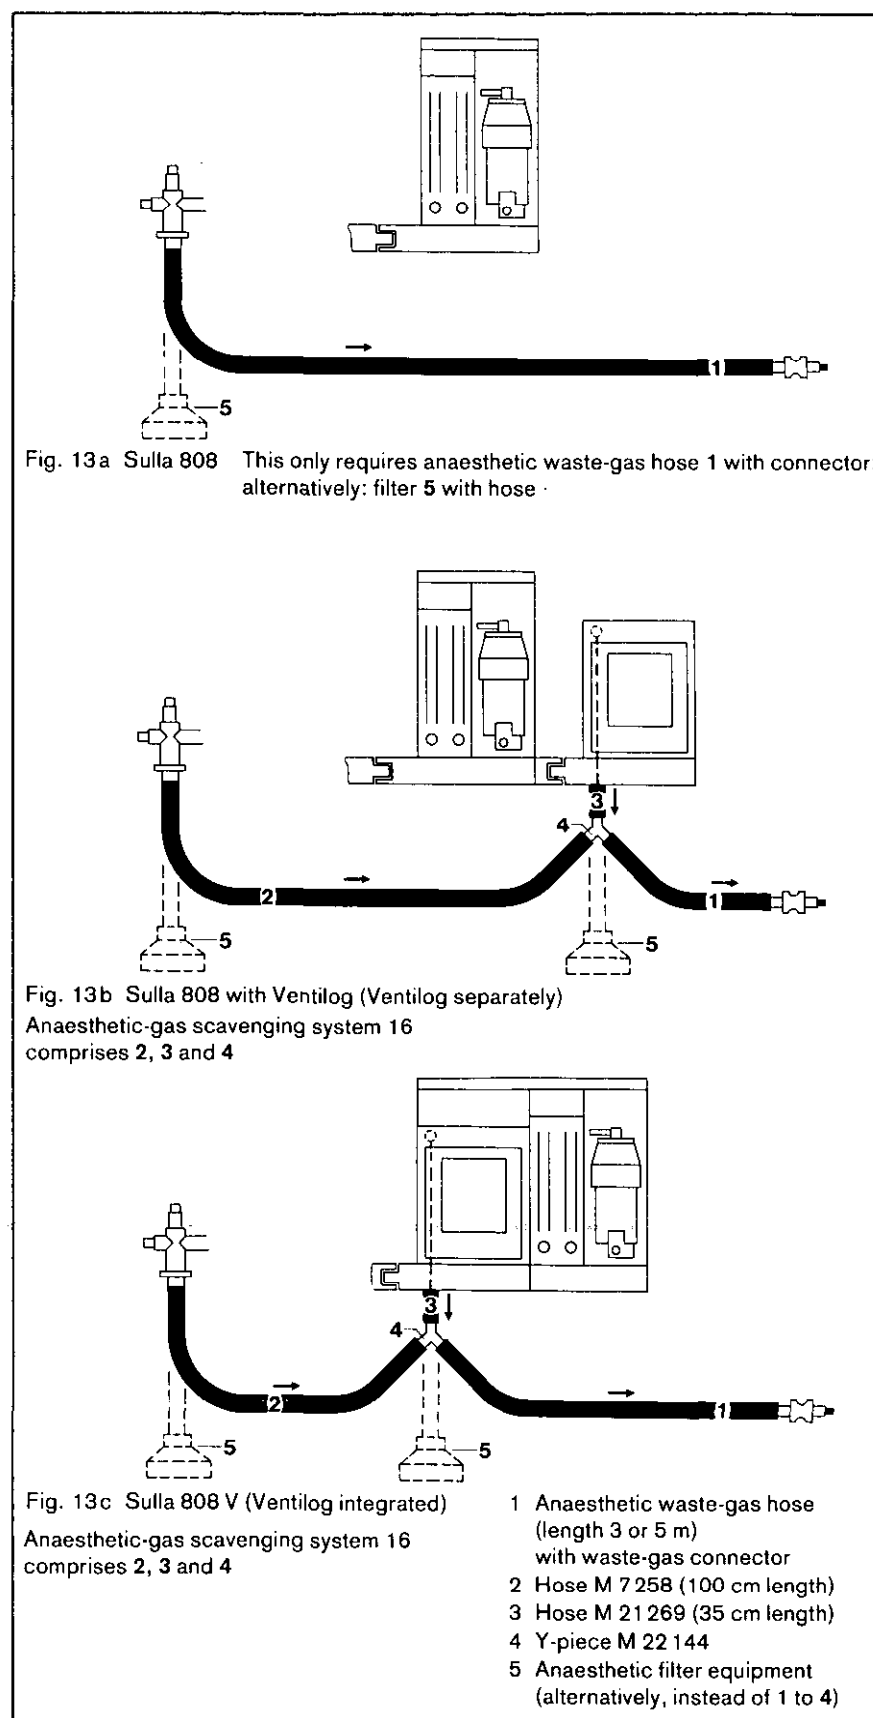

Fig. 13 Anaesthetic-gas scavenging for all models with flowmeter unit – front view (for models with gas blender: see Fig. 20)
4.6 Anaesthetic-gas scavenging (Fig. 13)
Depending on the equipment of the anaesthesia apparatus (Figs. 13 a, b, c) attach hoses 1, 2 and 3 to the waste-gas sockets of the circle system and the Ventilog, and connect to Y-piece 4.
Attach anaesthetic filters 5 with hoses (= anaesthetic filter equipment) to the appropriate waste-gas sockets as per Fig. 13 a, b or c (depending on the equipment of the anaesthesia apparatus).
5.11 Anaesthetic-gas scavenging (Fig. 13)